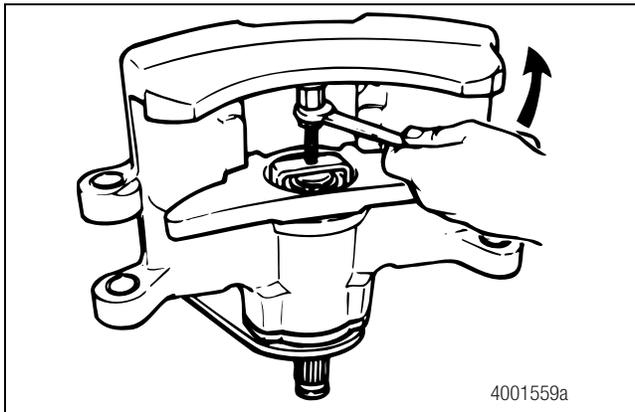

Figure 5.5
6. Turn the nut and force it against the spacer or the caliper to release the return spring pressure on the snap ring. Figure 5.5.